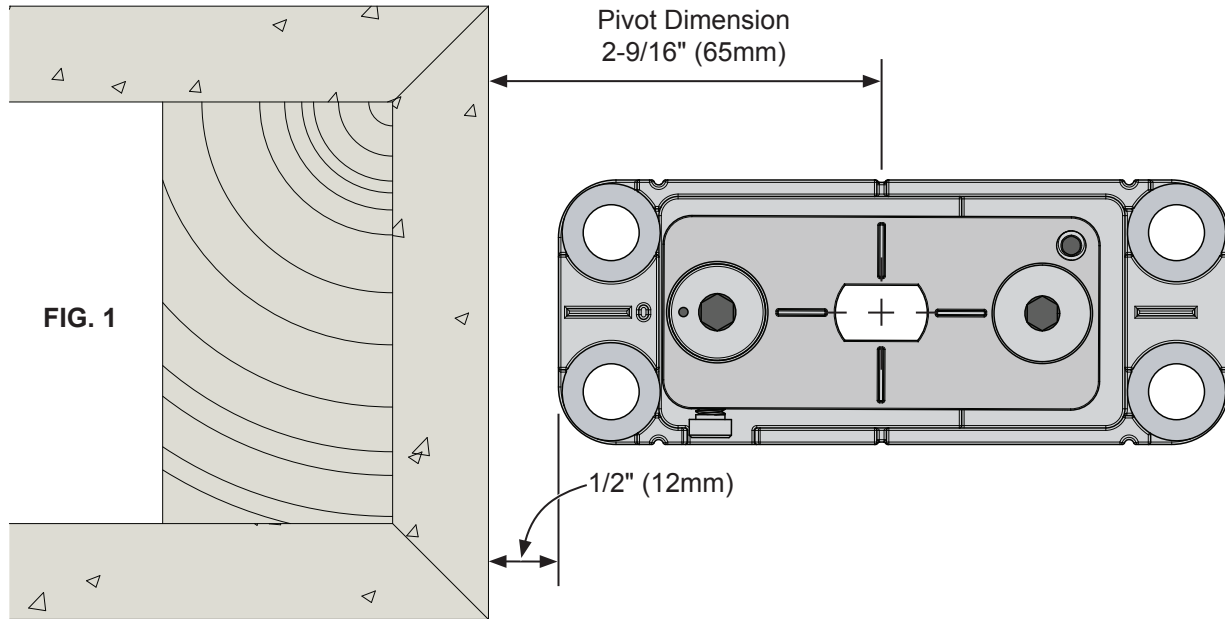

FIG. 1
1. Mark the four hole locations using the base plate as a template. **(Fig. 1)**